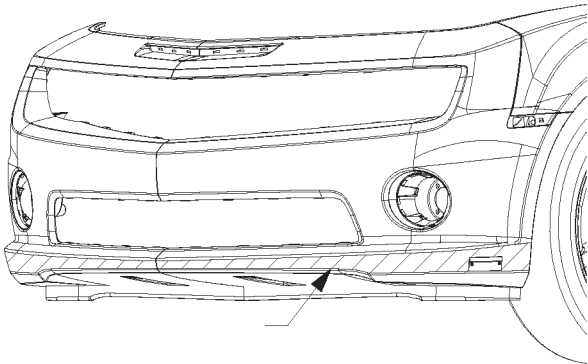

FIGURE 35
11. Wipe highlighted region of vehicle with provided alcohol wipe. Let dry. Refer to figure 35.